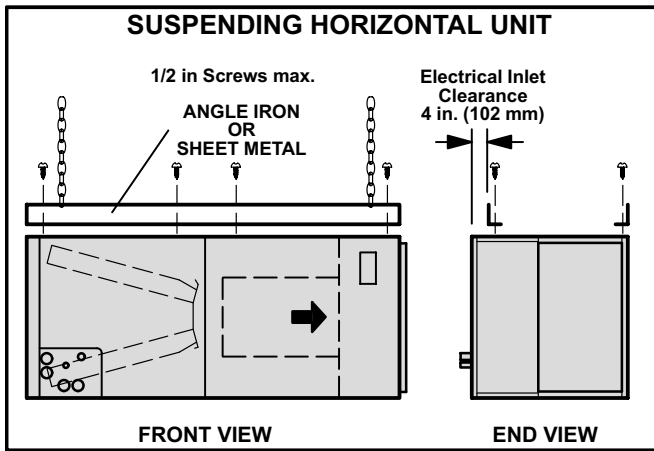

FIGURE 3
- 3 - If the unit is to be suspended, it must be supported along the entire length of the cabinet. If you use a strap, attach a piece of angle iron or sheet metal to the unit (either above or below) so that the full length of the cabinet is supported. Use securing screws which are no longer than 1/2 inch to avoid damaging the coil or filter. See figure 3. Connect the return and supply air plenums as required using sheet metal screws.
13 - If you are going to suspend the unit, the entire length of the cabinet must be supported. If you use a chain or strap, attach a piece of angle iron or sheet metal to the unit (either above or below it), so that the full length of the cabinet is supported. Use securing screws which are no longer than 1/2 inch to avoid damaging the coil or filter. See figure 3. Use sheet metal screws to connect the return and supply air plenums.